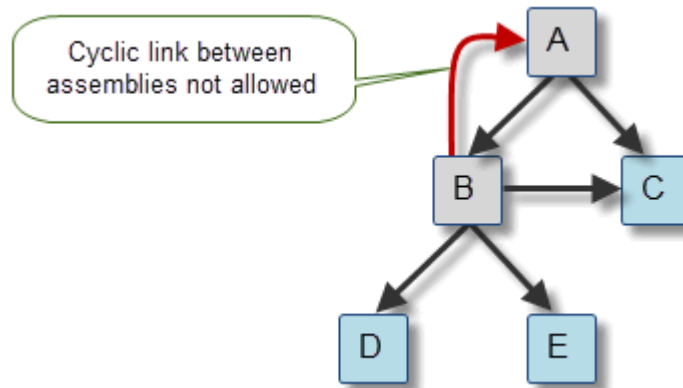

Figure 3–12 Cyclic and acyclic trees of assemblies and parts
- Assemblies cannot directly or indirectly instance themselves. Cyclic trees of assemblies and parts, as shown in *Figure 3–12*, are not allowed.